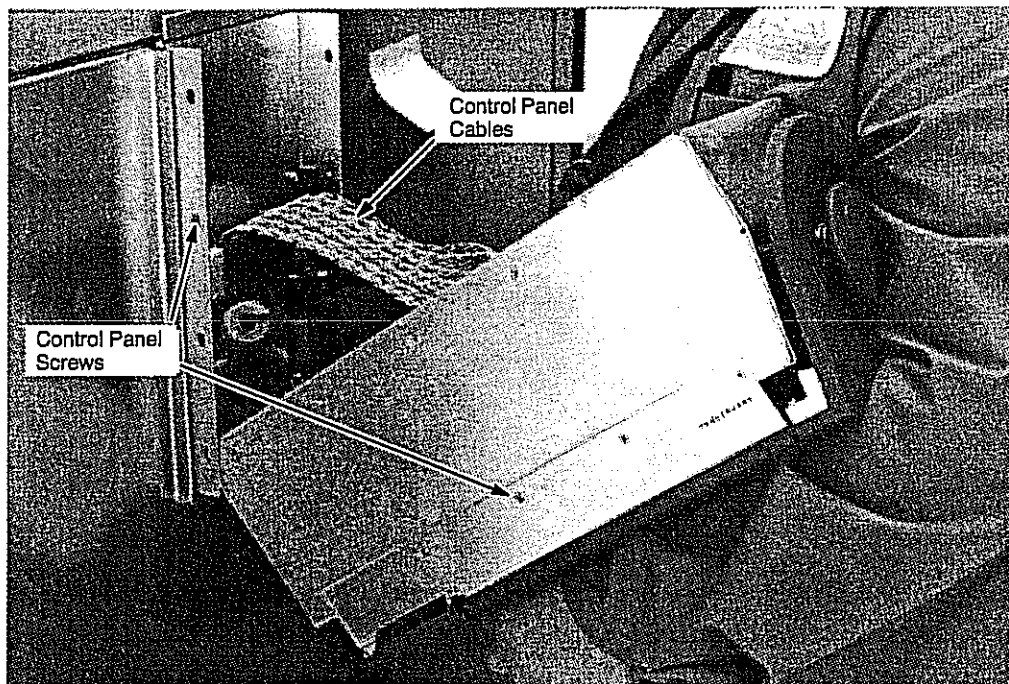

Figure 7-32. Control Panel Cables and Connectors
6. Remove the eight screws that secure the control panel to the mounting plate. Support the control panel as you remove the last screws, because it may fall. Refer to Figure 7-32.